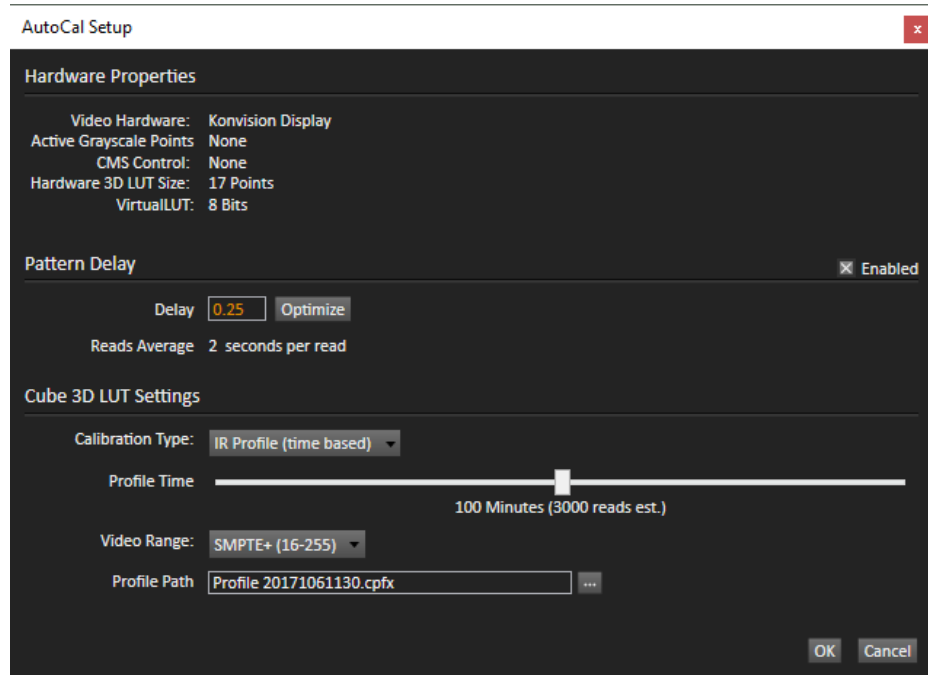

Figure 6. CalMAN 3D LUT AutoCal Setup dialog for the Konvision monitor.
3. On the 3D LUT Calibration page, click the *AutoCal* (rotating arrows) button at the right end of the meter action buttons. The *AutoCal Setup* dialog then appears (Figure 6).